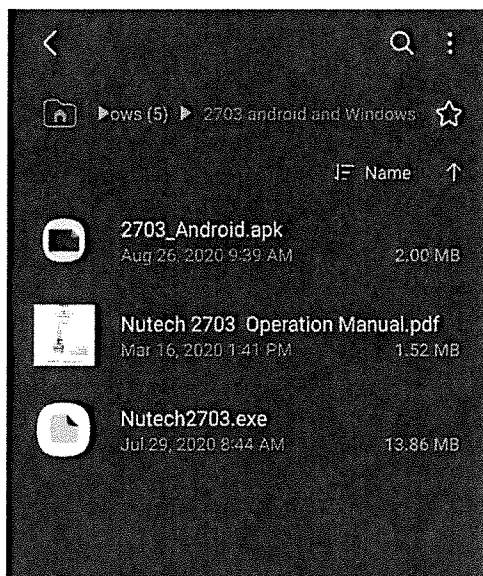

Figure 3: Extracted files. Choose the “2703.Android.apk” for download.
- Once extracted, your files now sit in the My Files app. Click on the file and you should see three items (Figure 3).